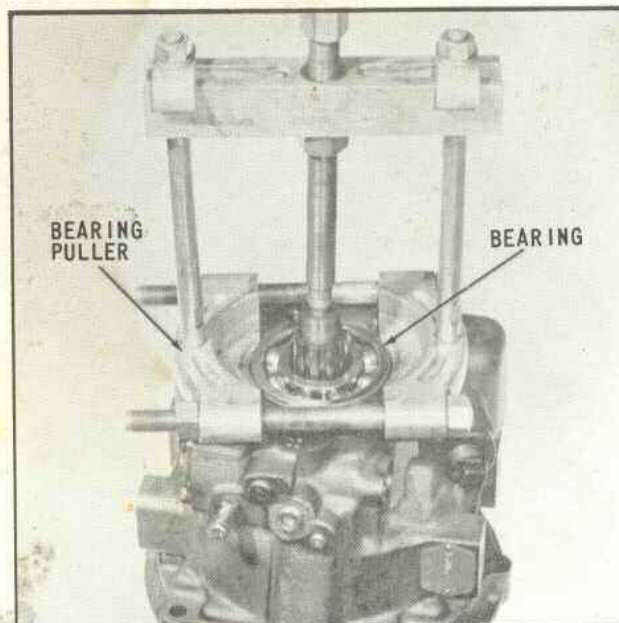

Fig. 20 Removing Bearing from Case
30. Using bearing puller, grasp bearing by exposed groove in outside diameter and gently pull bearing from case, (Fig. 20).